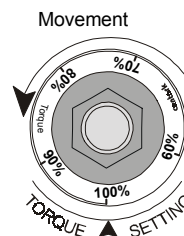

Fig. 8.6.4
- Using a No.17 wrench, turn the P Torque regulator or Torque Limit Device until the desired torque matches with the arrow S on the dial. (Figures 8.6.4 and 8.6.5)